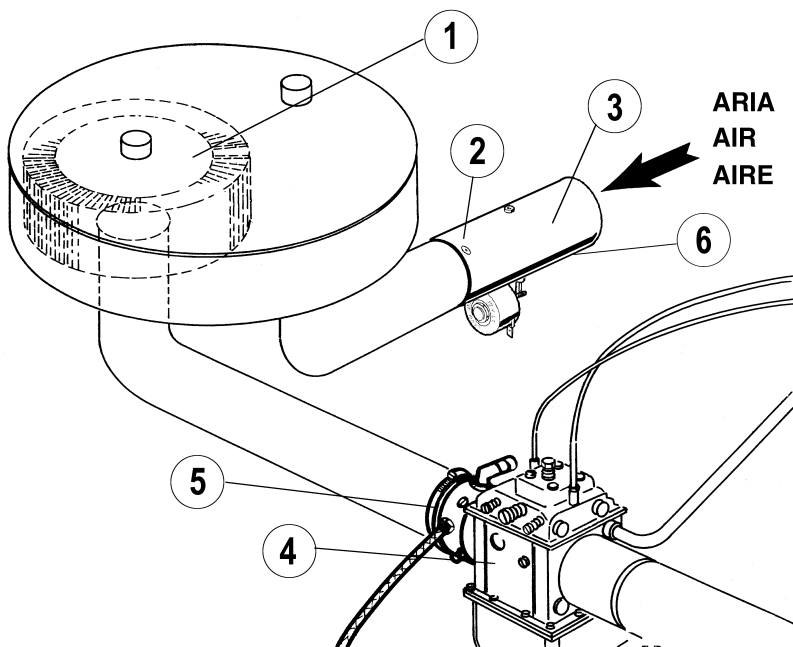
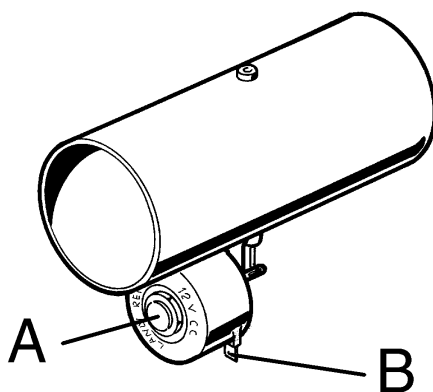

Fig. 1
Fig. 2
**LEGENDA (Fig.1)**
**AVVERTENZE GENERALI (Fig.2)**
A) **Non allentare il dado (A).** La bobina deve rimanere orientata come in origine.
**INSTALLAZIONE (Fig.1)**
**LEGEND (Fig.1)**
**GENERAL NOTICES (Fig.2)**
A) **Do not unlock the nut (A).** The coil has to remain oriented as in origin.
**INSTALLATION (Fig.1)**
**LEGENDE (Fig.1)**
**REGLES GENERALES (Fig.2)**
A) **Ne pas desserrer l'écrou (A).** La bobine doit rester orientée comme en origine.
**LEYENDA (Fig.1)**
**ADVERTENCIAS GENERALES (Fig.2)**
A) **No aflojar la tuerca (A).** La bobina tiene siempre que quedarse orientada como en origen.
**INSTALACION (Fig.1)**